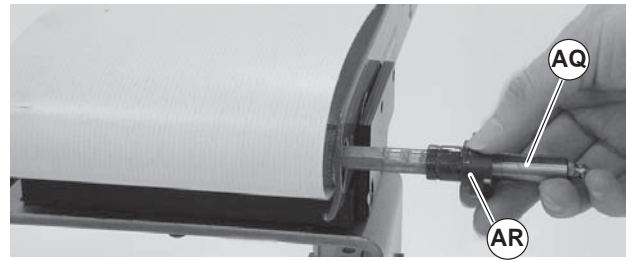

Figure 27
- Install outboard drive shaft (Figure 27, item AQ) and outboard bearing retaining sleeve (AR).